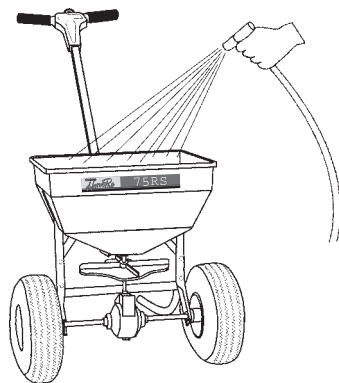

Figure 12
- Wash the spreader thoroughly after each use. See Figure 12. Remove the gear cover and wash the gears thoroughly. Then dry completely in the sun or a heated area.